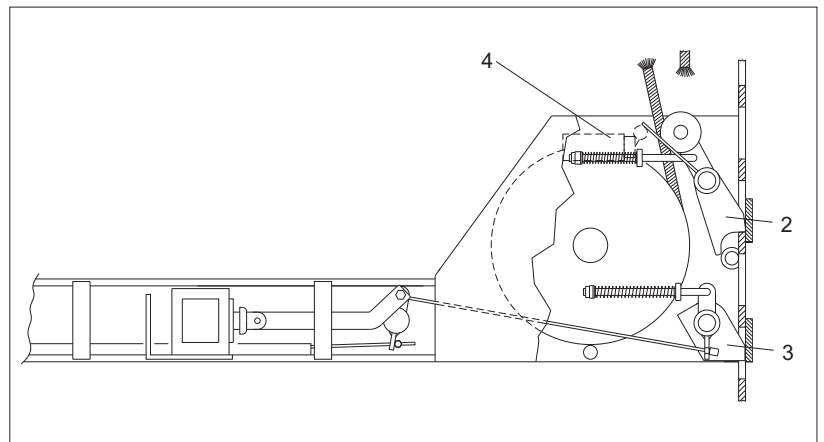

Fig.23 Safety wedge and limit switch
- Should the steel cables slacken or break, the safety wedges (2) will stop the movable part of the lift and the vehicle in its current position (fig.23) and a microswitch (Pos.4, fig.23) located on the steel cables inside the cross-piece will disconnect the power supply to the motor.